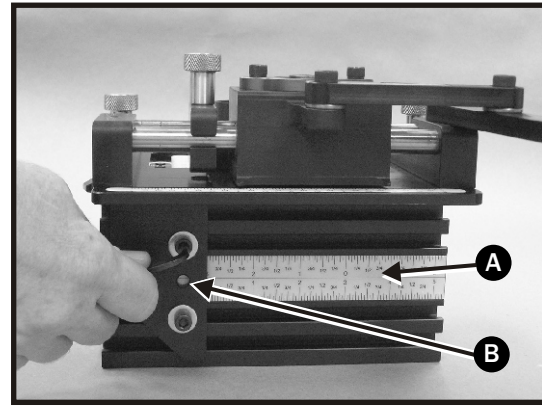

FIG. 8
1. Another way to position the workpiece is to set the stock locator block ( letter "B" in Fig. 8) and use the stock locating scale (letter "A" in Fig. 8) to locate the desired position of the workpiece.
Using the 3/16" hex wrench loosen the two 1/4-20 socket head cap screws to position the stock locating plate (Fig. 8). The stock locating plate has a rail on the back side that slides in the top T-slot in the face of the Mortise Mill base. This rail will help keep the stock locator plate square and should be pressed tightly against the top or bottom edge of the T-slot to help keep it square. The stock locating plate also has an angled side and can be flipped upside down to position a workpiece at a 45 degree angle.